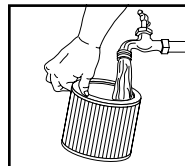

FIGURE 18
25. Or rinse (from the inside of the filter) with water. **FIGURE 18.** Dry completely (approximately 24 hours).